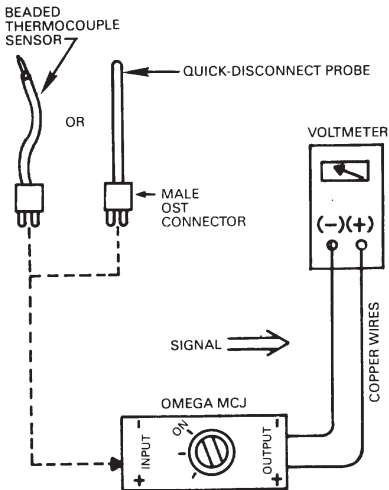

Figure 2-2. Operating with a Voltmeter
Refer to Figure 2-2. To attach a sensor to the MCJ, simply plug in a Quick-Disconnect thermocouple probe assembly directly into the INPUT side of the MCJ. Or, you can wire a beaded thermocouple sensor to the male OST connector that is supplied with the unit. (When wiring your own sensor, be sure to attach the RED wire of the thermocouple to the “-” terminal of the OST connector.) Then plug the OST male connector assembly into the INPUT side of the MCJ, as shown in Figure 2-2.
2. Plug in the thermocouple sensor into the MCJ and connect to a voltmeter (Figure 2-2). Warm the thermocouple junction. The voltmeter should go up scale, that is, read more positive. If it goes down scale instead when the probe is warmed, re-check the polarity of the thermocouple wire. Correct it, if necessary. (Remember that the RED thermocouple wire is negative).
Figure 2-2. If the voltmeter shows a negative millivolt reading, the wiring is wrong. Reverse the polarity of the output wiring from the MCJ to the voltmeter. If erratic readings occur, check for loose or broken wires.